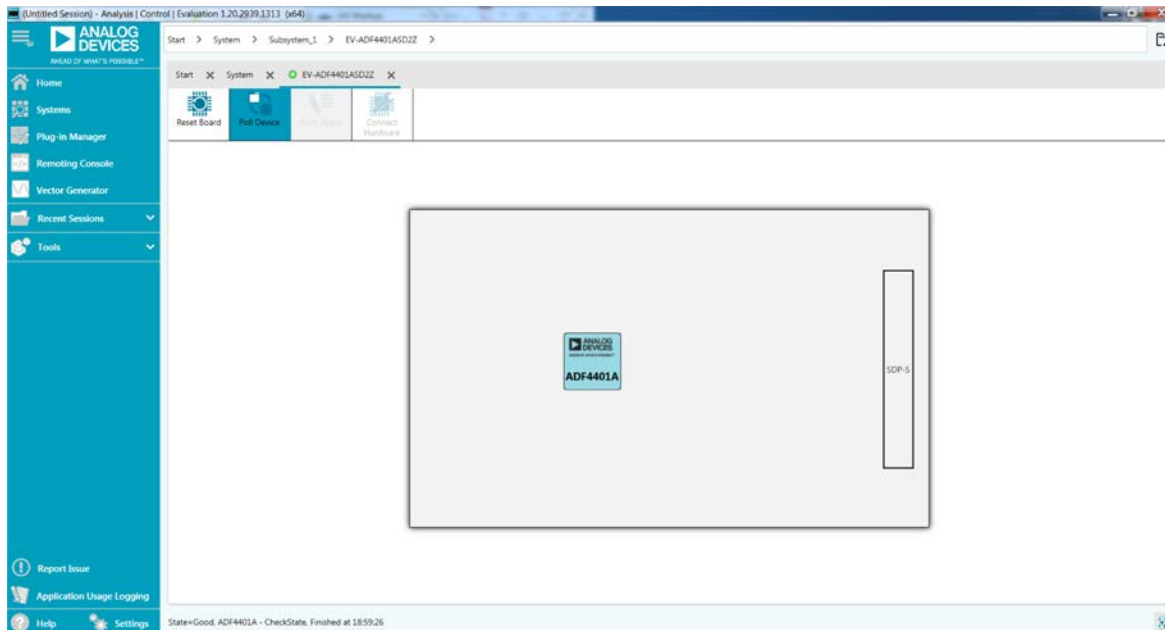

Figure 4. ACE EV-ADF4401ASD2Z Tab, Device Selection
2. Double click the EV-ADF4401ASD2Z icon to open the EV-ADF4401ASD2Z tab, as shown in Figure 4.